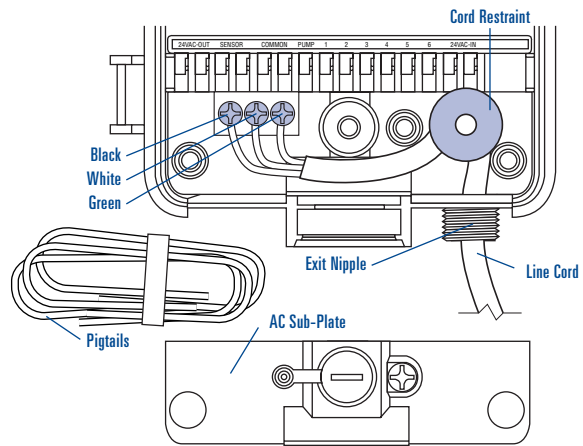

Figure A4: Removing "Line Cord"
- Loosen the screw on the “Cord Restraint” and the three screws on the terminal block and remove the “Line Cord” completely. [See Figure A4]